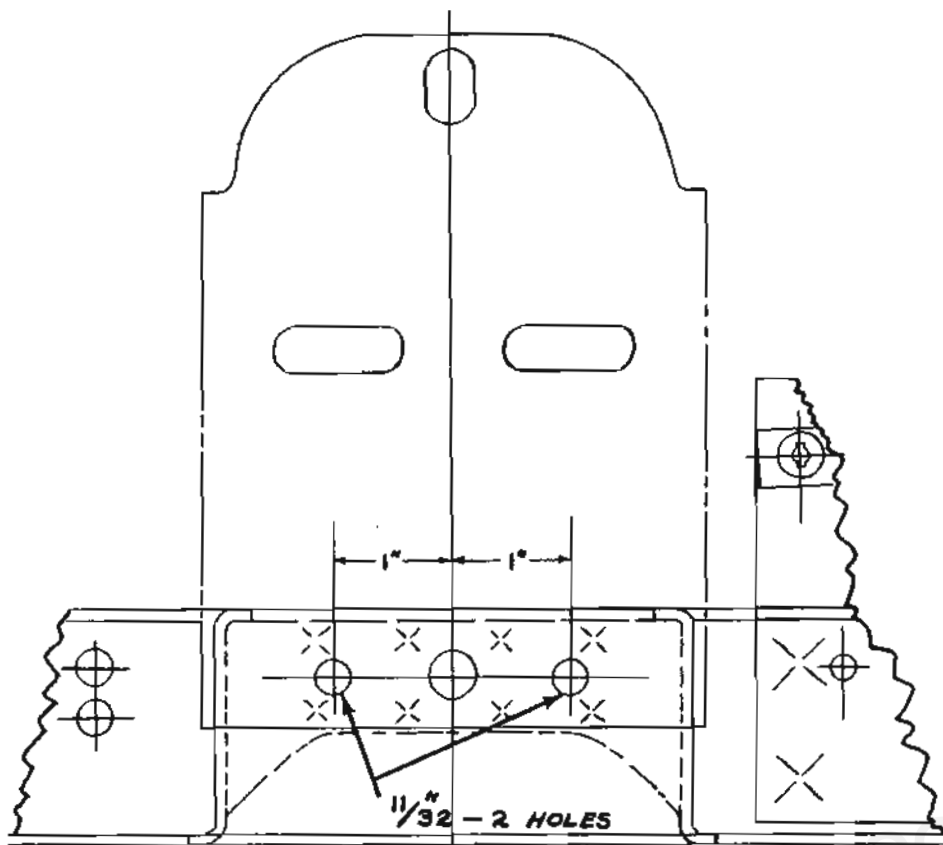

Fig. 3
- 3. Drill two 11/32" holes in the instrument board flange on the centerline of the existing hole at the dimensions shown in Fig. 3.